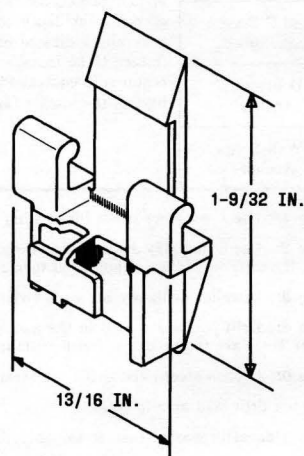

Fig. 1 — B Siding Clip
2.16 Be sure protrusion of fasteners will not cause damage or injury. Fasteners for siding can be of the following variety: tapping screw, B or C plastic anchor, toggle bolts, B wall screw anchors, or B siding clip (Fig. 1).